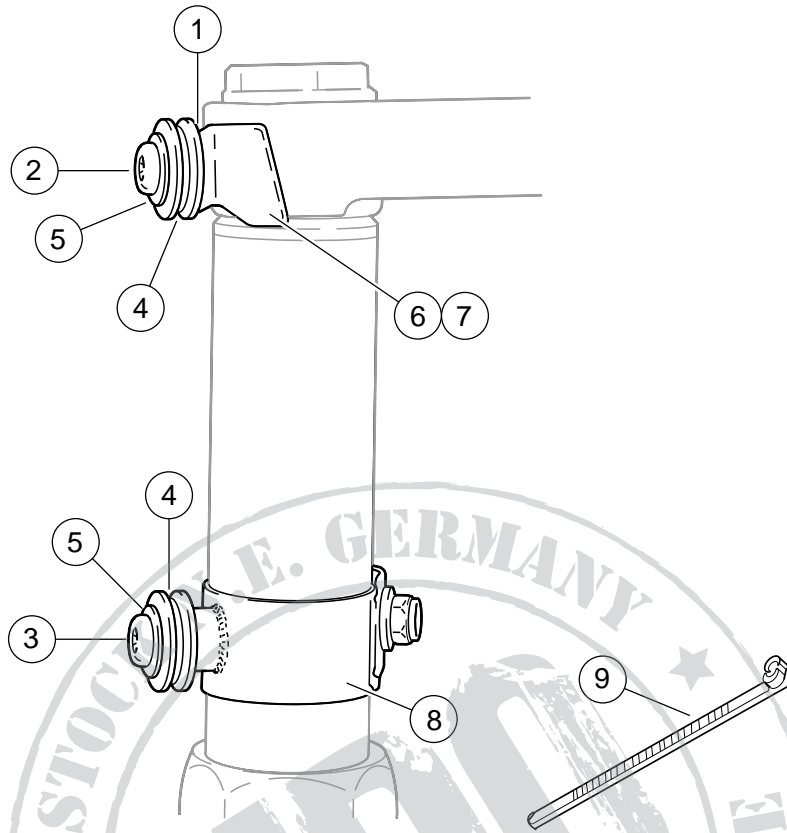
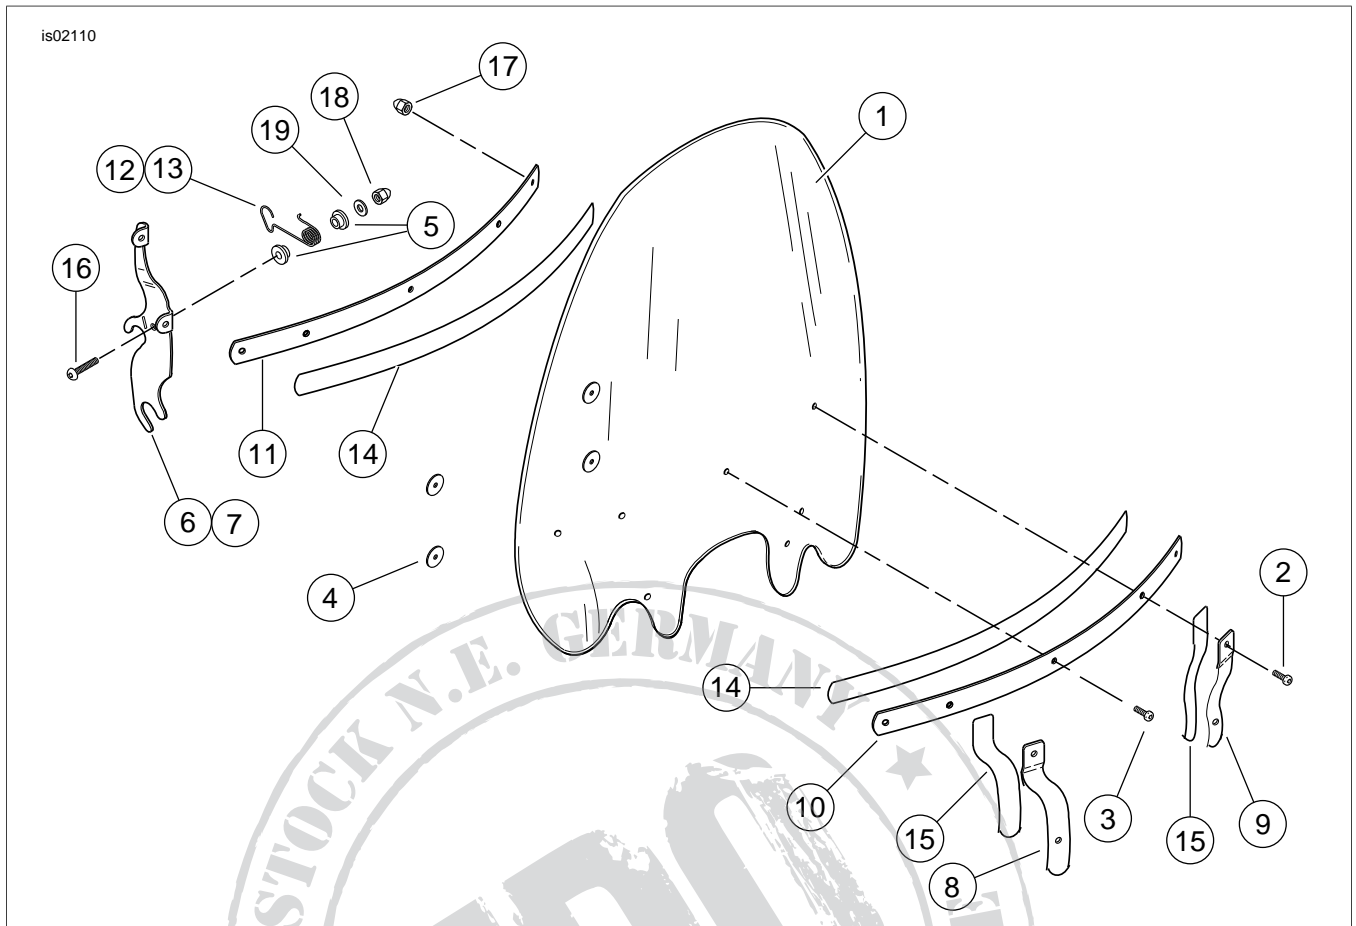

Figure 4. Service Parts: Docking Hardware Kit
Figure 5. Service Parts: Windshield Kit
See Figure 4 and Table 2, Figure 5 and Table 3.
4. See Figure 4. Assemble mounting hardware for lower windshield mounting. Assemble in the following order, and leave assembly loose:
- b. Place flatwasher (5) and bushing (4) on bolt (3) and install on clamp.
5. See Figure 5. Assemble hardware for upper windshield mounting as shown in illustration and tighten buttonhead screws to 15 ft-lbs (20 Nm). The spacer (1), not visible in the illustration, fits between the retainer wire bracket (6, 7) and the upper fork triple clamp.
6. Hook the two top windshield assembly "jaws" into the grooves of the top bushings (4, in Figure 4) then slide the lower clamp assemblies up until the lower bushings firmly fit into the lower windshield "jaws".
7. With windshield in place, tighten lower mounting clamp (8) hardware by first tightening clamp nut to 10 ft-lbs (14 Nm). Be sure the clamp does not rotate during tightening (**NOTE:** The mounting bushings must be parallel to the windshield brackets).